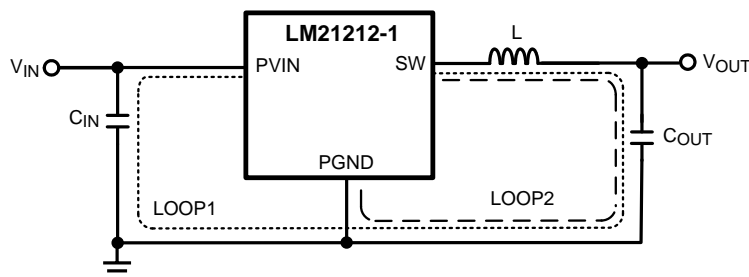

Figure 39. Schematic of LM21212-1 Highlighting Layout Sensitive Nodes
1. Minimize area of switched current loops. In a buck regulator there are two loops where currents are switched at high slew rates. The first loop starts from the input capacitor, to the regulator PVIN pin, to the regulator SW pin, to the inductor then out to the output capacitor and load. The second loop starts from the output capacitor ground, to the regulator GND pins, to the inductor and then out to the load (see Figure 39). To minimize both loop areas, the input capacitor should be placed as close as possible to the VIN pin. Grounding for both the input and output capacitor should be close. Ideally, a ground plane should be placed on the top layer that connects the PGND pins, the exposed pad (EP) of the device, and the ground connections of the input and output capacitors in a small area near pin 10 and 11 of the device. The inductor should be placed as close as possible to the SW pin and output capacitor.